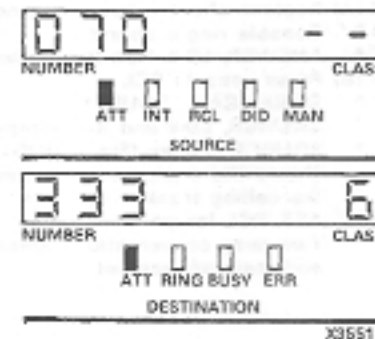

Fig. 300-5
- \* SOURCE display (Fig. 300-5) shows equipment number of calling trunk